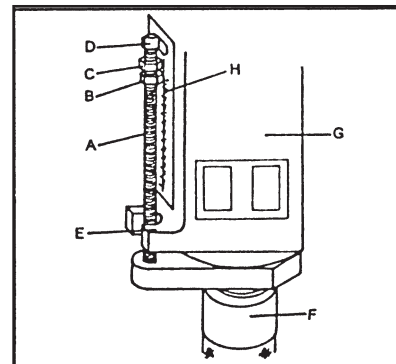

Figure 4
Located on the left side of the drill head (G) is the Spindle Feed (or depth feed) adjuster assembly, which allows the depth of the hole to be set. The procedure for setting the drilling depth is as follows **(See Figure 4)**:
1. Lower the Chuck (F) until the drill contacts the surface of the workpiece and hold that in position.
2. Screw down the adjuster nut (B) so that the gap between its underside and face (E) is the depth of the hole required.
3. Screw down nut (C) and lock it against the adjuster nut (B).